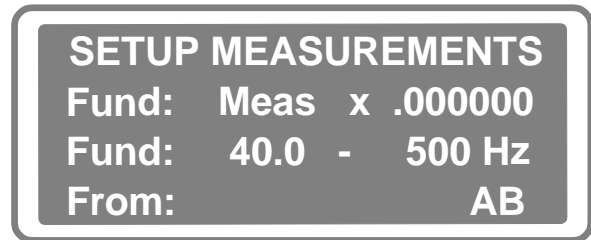

Figure 11. Setup Measurements Display
3. The first four display lines of the SETUP MEASUREMENTS menu show the fundamental frequency measurement type, range, and input source menu. See Figure 11.